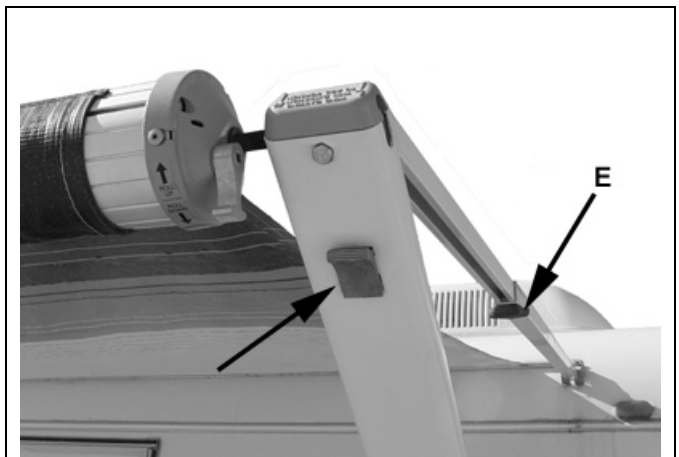

Figure 10-10 –Retract Rafter Arms
- Loosen adjustment knobs (E) and release lock (arrow) and slide the rafter arms down to the bottom of the main arms. See figure 10-10.